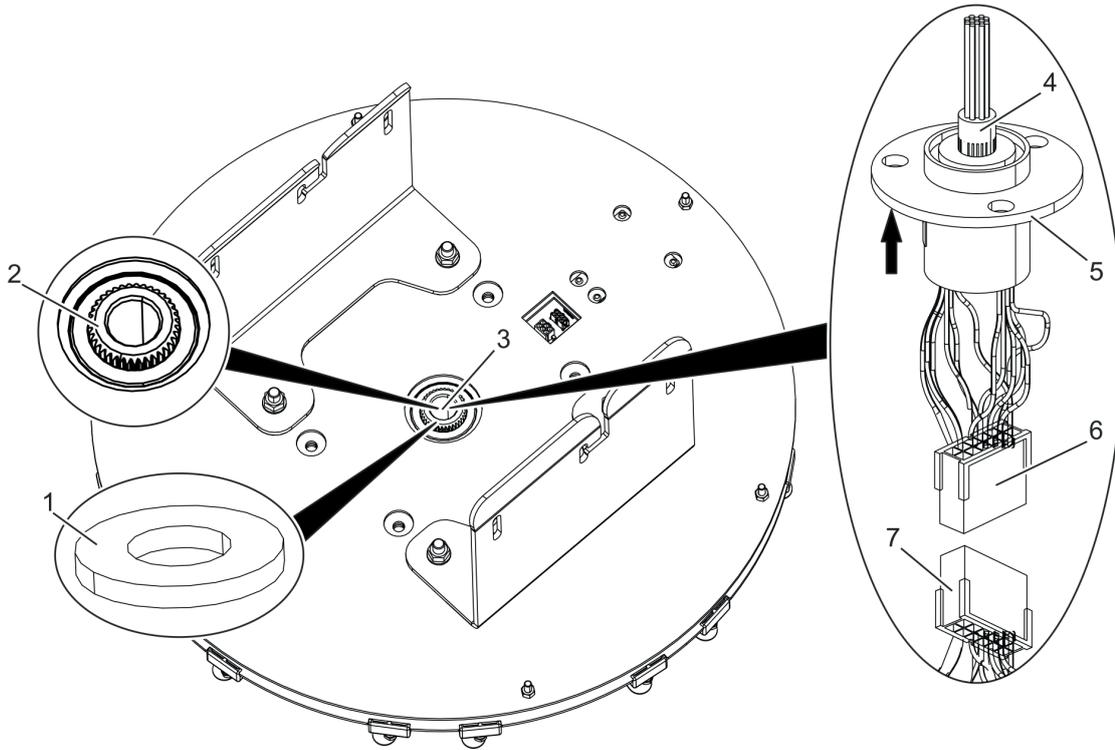

Fig. 128 Operator (top view)
5. Clean the top side of the inserted toothed shaft (Fig. 128/2) in the center of the operator (Fig. 128/3) with a cloth and degreaser.
6. Remove the foil from the adhesive side of the Velcro ring (Fig. 128/1) and clean the adhesive side with a cloth and degreaser.
7. Guide the wing connection cable (Fig. 128/7) from the center of the operator through the Velcro ring (Fig. 128/1) and bond the Velcro ring (Fig. 128/1) with the adhesive side to the top side of the toothed shaft (Fig. 128/2).
8. Connect the wing connection cable (Fig. 128/7) with the slip ring (Fig. 128/6).
9. Place the slip ring with the connected wing connection cable (Fig. 128/7) on the Velcro ring (Fig. 128/1) with the Velcro side in the center of the operator (Fig. 128/3).
10. Guide the slip ring line (Fig. 128/4) to the controller.